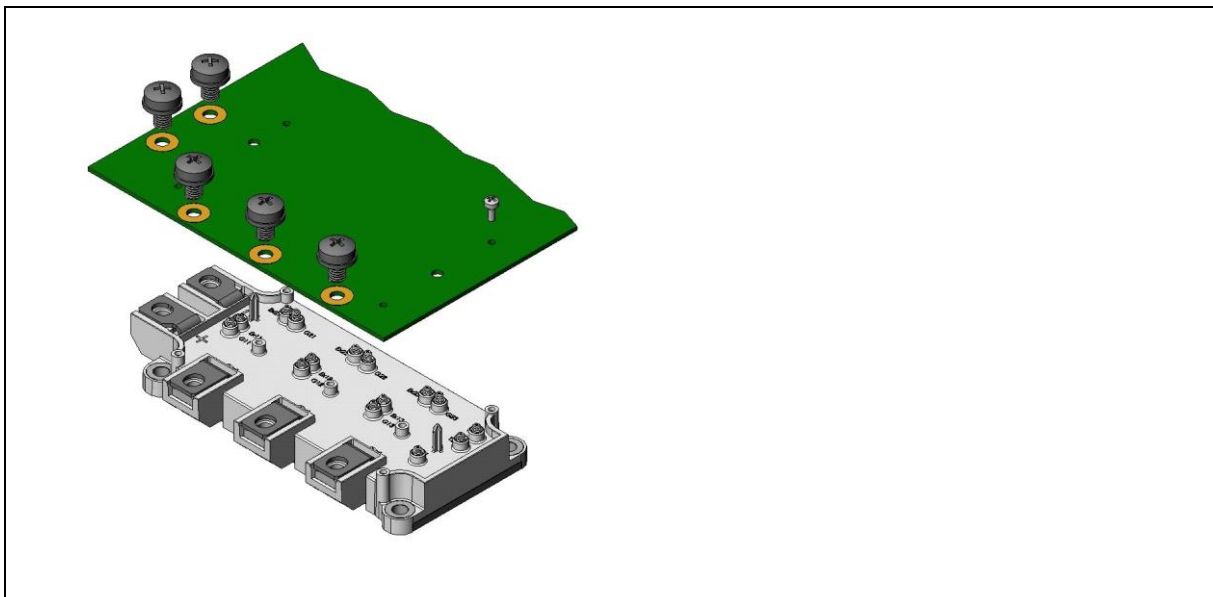

Fig. 8-1 Mounting of PCB on main terminals
- ◆ If SEMiX is used with a PCB for the main DC and AC currents, i.e. a PCB will be screwed to the main terminals (Fig. 8-1), it is necessary to use “press-in bushes” here (in accordance with EN 50178 - A7.1.8.5). These “press-in bushes” must be able to permanently withstand the forces that occur from mounting, as described in chapter 9.2.3.